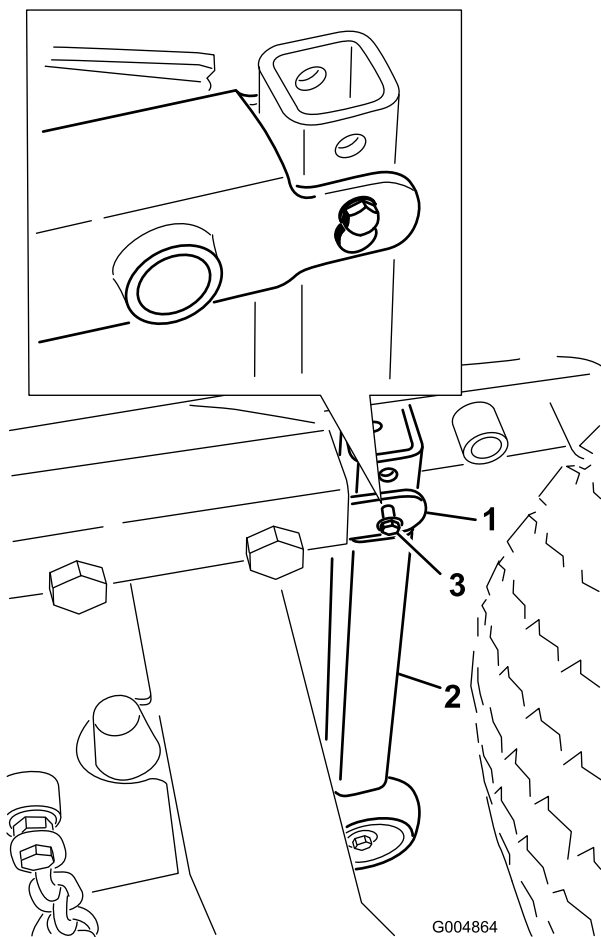

Figure 87
32. Remove the clevis pins and a 5/16" self-tapping screw pin retainers securing the vertical tube support assemblies to the rear of the deck frame (Figure 87).